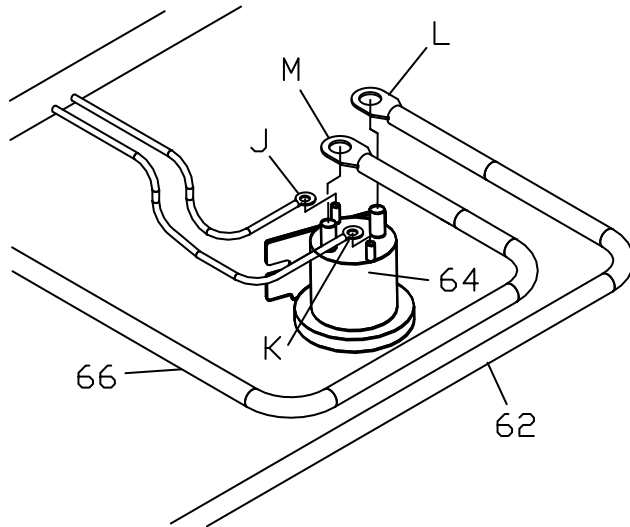

Figure 21. Solenoid Connections.
22. Attach Power Unit Solenoid (64) securely inside the engine compartment. The Power Unit Solenoid should be mounted in the upright position as illustrated in Figure 21.